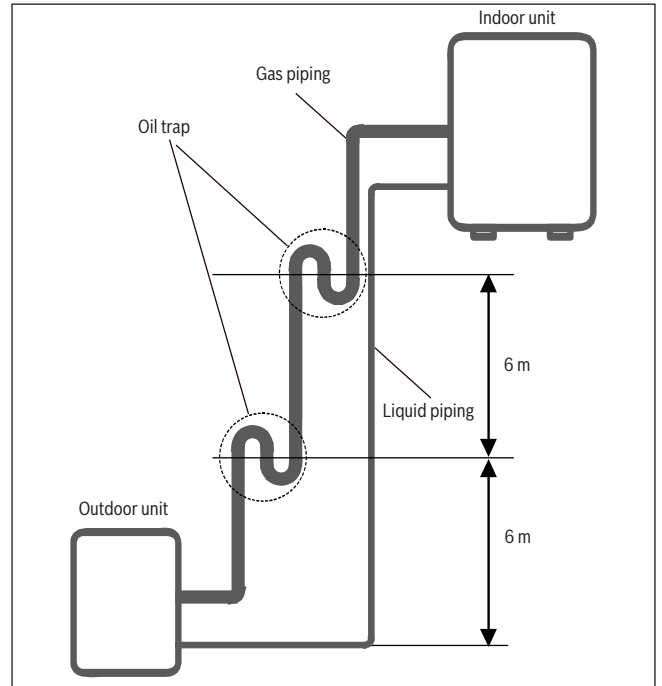

Fig. 27.
- It is recommended that vertical suction risers not be upsized. Proper oil return to the compressor should be maintained with suction gas velocity. If velocities drop below 7.62 m/s, the oil return will be decreased. An oil trap should be installed every 6 m of vertical suction line riser. (See Fig. 27)